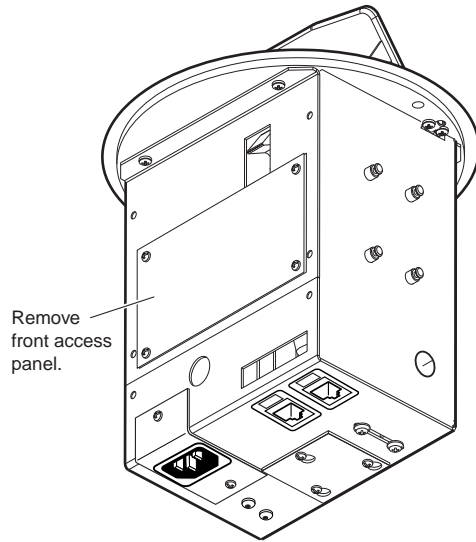

Figure 3-1 — Removing the front access panel (HSA 222 models)
- (HSA 222 models only)** Remove the four Philips head screws from the front access panel (figure 3-1). Retain the screws. Lift the panel away from the enclosure.